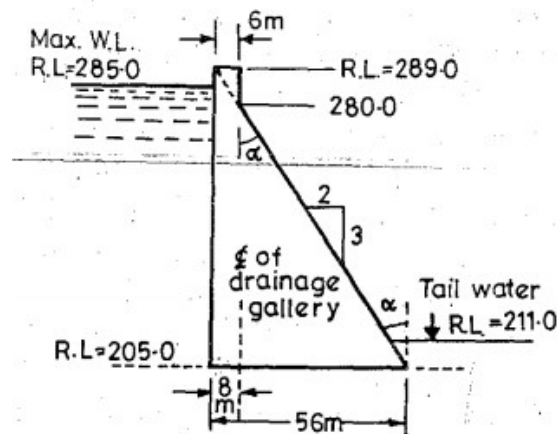

Fig.1
- Q.5(a) The non-overflow portion of a concrete gravity dam is shown in Fig.1. Calculate the maximum vertical stress at the heel and toe of the dam. Assume weight of concrete as 24.0 kN/m^3 —neglect earthquake & wind effects and pressures due to silt & ice for this dam. [5] 5 4